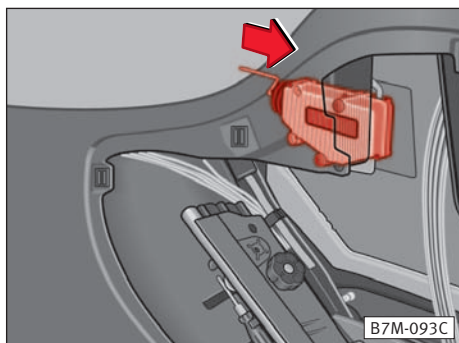

Fig. 150
- Then push the locking rod in front of the white diaphragm housing backward slightly in direction of arrow ⇒ fig. 150. ■